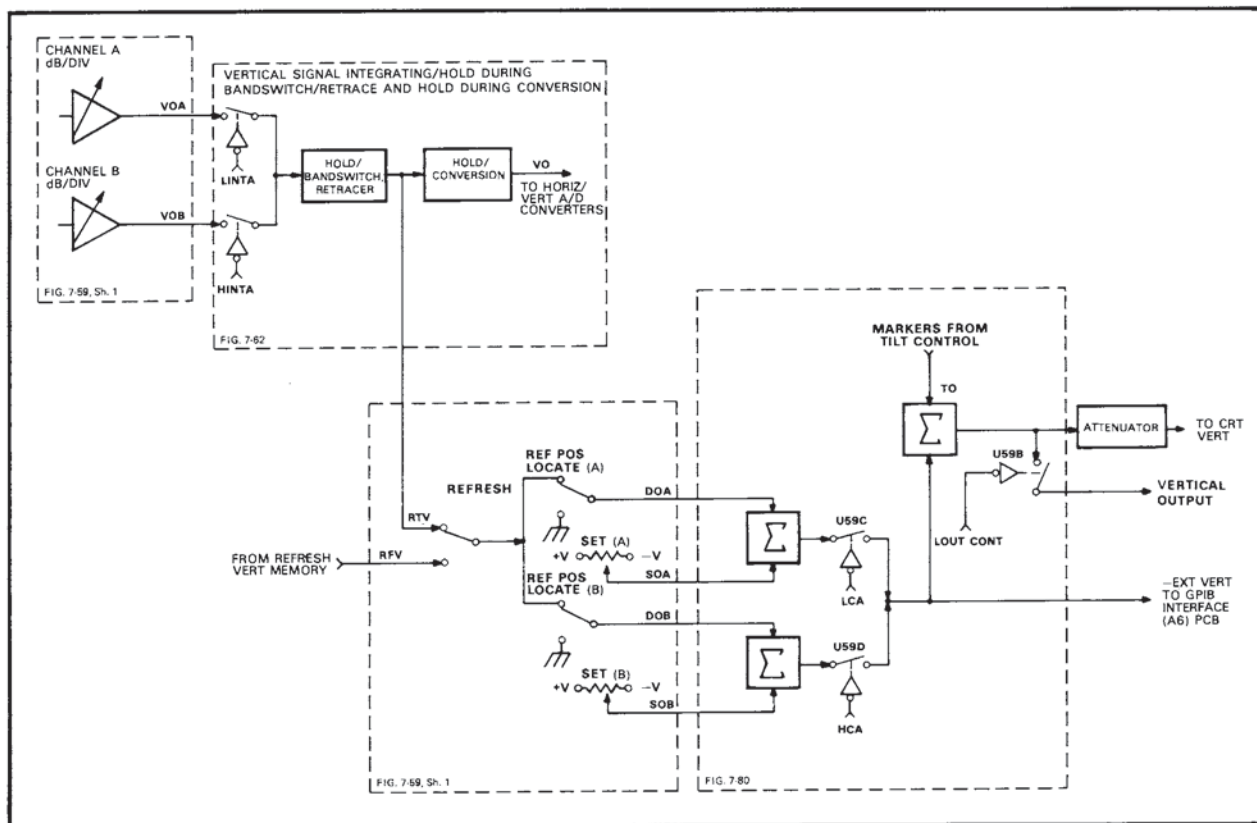

Figure 7-77. Vertical Output Circuits, Block Diagram
These circuits serve two functions: (1) they sum the vertical output signal, either real time or refresh, with both a reference voltage from the REF POS SET potentiometer and with markers, and (2) they route the vertical output signal to the CRT vertical deflection circuits, GPIB interface (A6) PCB, and rear panel VERTICAL OUTPUT connector. The vertical output circuits, which are located on both the A1 and the A2 PCBs, are described using the block diagram in Figure 7-77. This block diagram indicates the figure number of the schematic where the circuits are diagrammed. To correlate between the blocks on the block diagram and the circuits on the schematic, use the mnemonic symbols; these symbols, which identify control lines, point to the circuits. A parts locator diagram for the Vertical Output circuits is presented in Figure 7-79.
As shown in Figure 7-77, the real time vertical (RTV) and refresh vertical (RFV)